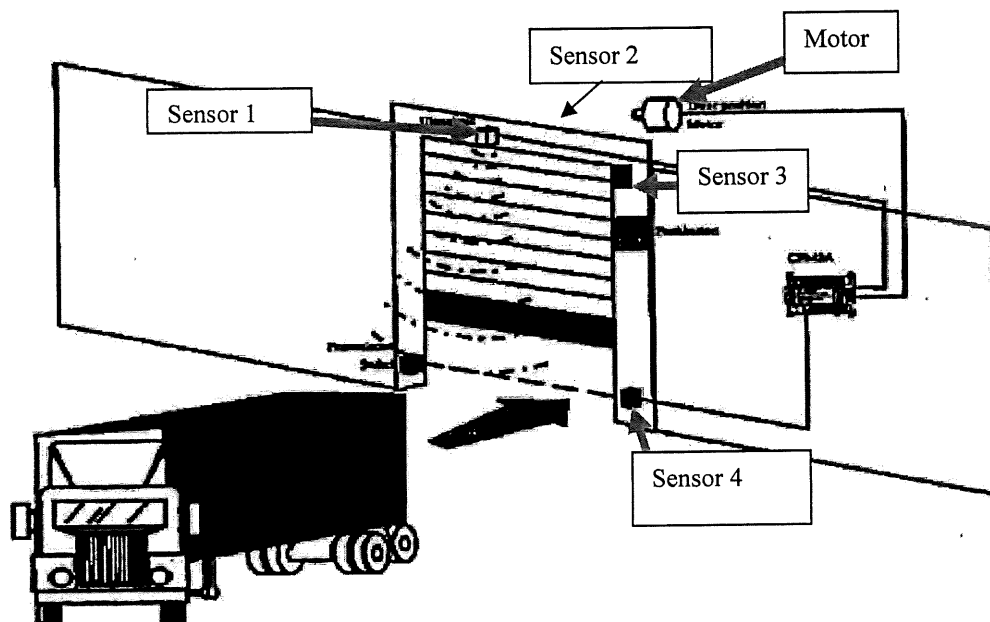

Figure 2
- a) State three (3) **SFC** (Sequence Function Chart) components: (6 marks)
- c) Figure 2 shows a warehouse whose entry is fully automatically controlled by a PLC system. When sensor 1 detects the presence of a truck, the door will open, when sensor 2 detects a truck leaving (away) the door, the system will allow the door to cover the warehouse without accident occurring, Sensor 3 and sensor 4 are tasked with detecting if the door has reached the full opening limit (sensor 3), while sensor 4 detects the door limit is fully closed. (DIFU , DIFD application)